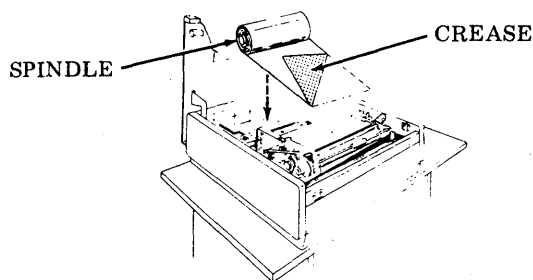

Fig. 47—Paper Forming Prior to Installation
9.02 Insert spindle in new roll; crease end of paper as shown and install paper roll into printer enclosure (Fig. 47).